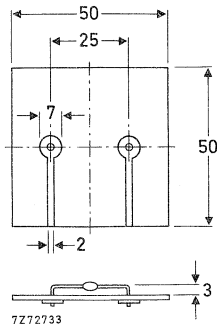

Fig. 2 Device mounted on a printed-circuit board.
2. Thermal resistance from junction to ambient; device mounted on an 1,5 mm thick epoxy-glass printed circuit board; Cu-thickness > 40  $\mu\text{m}$ ; Fig. 2 (see "Thermal model")